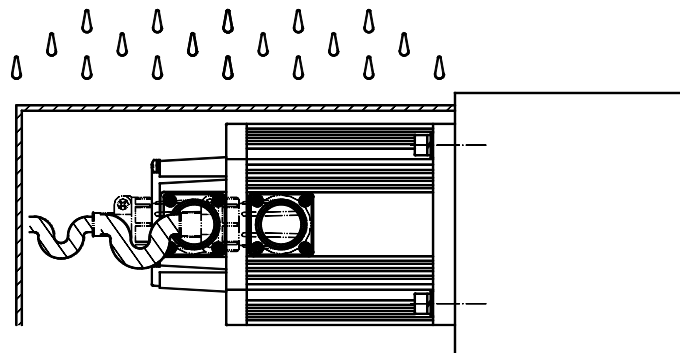

Fig. 6
9.3 When the motor connector side gets along the horizontal direction, the cable should be bent as the semi-circle of drop shape before connecting the connector, which is shown as figure 6.